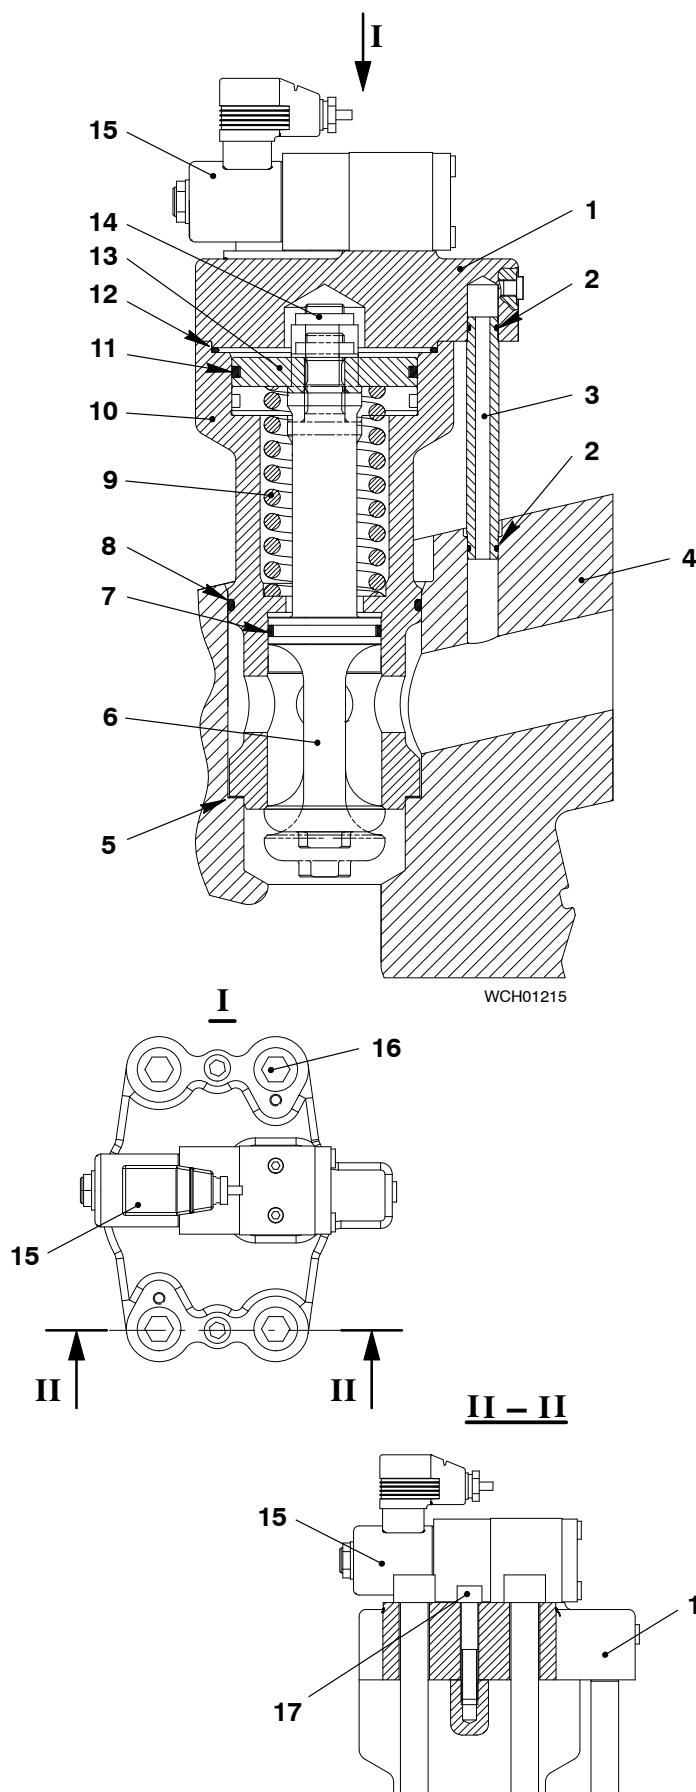

Fig. 1
- 1) Disconnect the electrical connection from the 3/2-way solenoid valve (15, Fig. 1).
- 2) Remove the four screws (16).
- Note:** When you do the step below, make sure that you do not damage the pipe (3).
- 3) Carefully remove the starting air valve from the cylinder cover (4).
- 4) Remove and discard the gasket (5).
- 5) Put applicable protection over the opening in the cylinder cover (4).
- 6) Remove the pipe (3) from the cover (1).